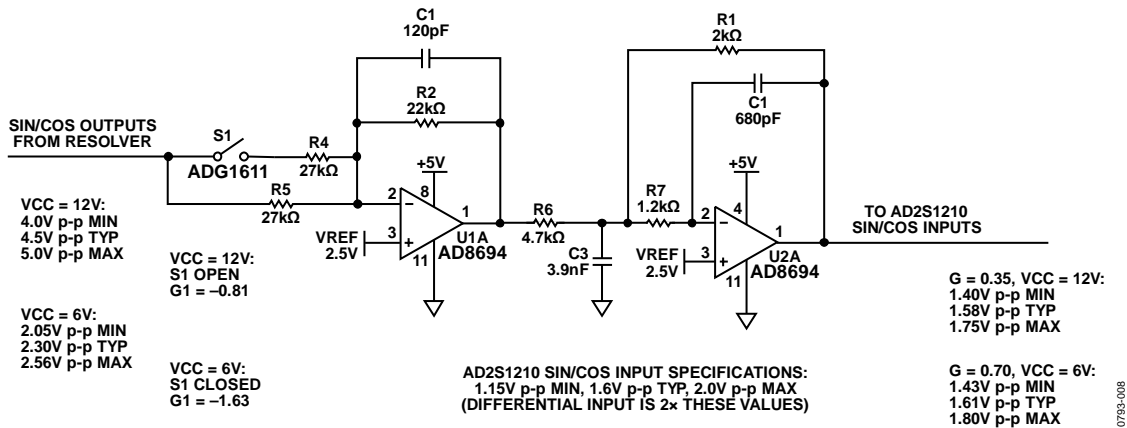

Figure 8. Resolver Receiver Circuit (Simplified Schematic: All Connections and Decoupling Not Shown)
Figure 8 shows the receiver circuit that includes a third order Butterworth filter and a programmable gain stage. When the driver circuit is in the high performance mode (VCC = 12 V), S1 is open, and the overall gain is 0.35. The input drive to the resolver is 18 V p-p (differential), and the SIN/COS outputs are 9 V p-p differential because the resolver transformation ratio is 0.5. The 9 V p-p differential is 4.5 V p-p single-ended, and when multiplied by the 0.35 gain factor, yields 1.58 V p-p (3.16 V p-p differential) which is the optimum input voltage for the SIN/COS inputs of the AD2S1210. Similarly, in the low power mode S1 is closed, and the overall gain is 0.7 which again provides an optimum input signal level for the SIN/COS inputs of the AD2S1210.
2. Ensure that none of the components are subjected to overvoltage. For example, if the resolver output voltage is too high for the ADG1611 switch, a resistor can be added in series with the input to the circuit shown in Figure 8.